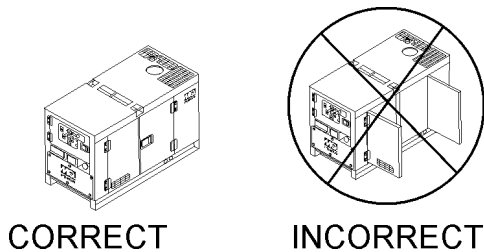

Figure 38. Engine Enclosure Doors
5. Close all engine enclosure doors (Figure 38).
1. Place both the **MAIN**, **GFCI** and **LOAD** circuit breakers as shown in Figure 38 to the **OFF** position.